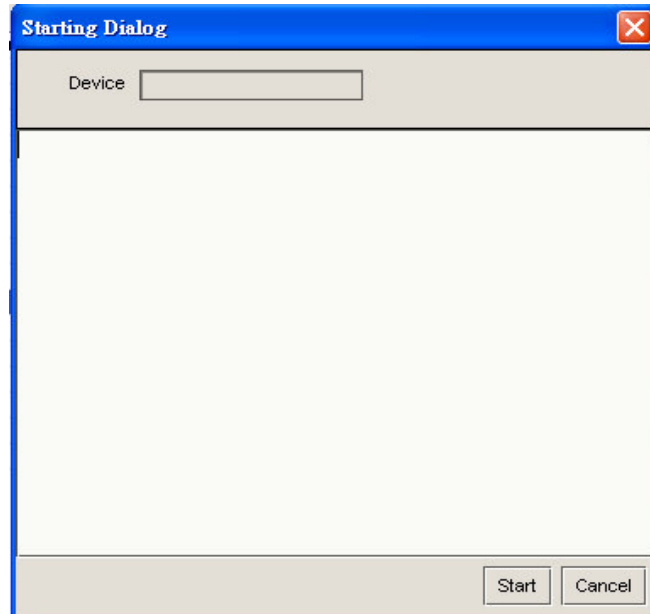

Figure 9-13. Deploy initial progress dialog
Step 2: Push the apply button to apply this PVC profile to selected profiles. The system will display the deploying dialog to show the display result as below Figure 9-13: